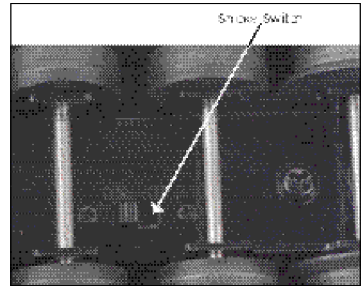

Figure 5 - Smoke Switch
2. If you choose not to prime the unit with fluid, turn the smoke unit switch located under the tender to the OFF position. (See Fig. 5 on page 12) Running the engine without a primed smoke unit may cause damage. See the "ProtoSmoke Unit Operation" section of this book for more information on smoke unit maintenance.
■ If you choose not to add the fluid (*or have already added the fluid but choose to run smoke free*), turn off the smoke unit switch located under the tender body. (see figure 5) Failure to either add fluid to the unit or to turn it off may damage the smoke unit heating element and/or wicking material.